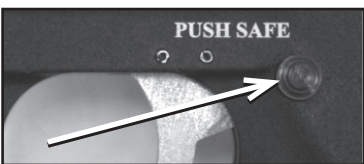

Figure 1: Trigger Safety Location
- **TO TURN ON THE TRIGGER SAFETY (SAFE MODE): PUSH THE SAFETY IN AS SHOWN IN FIGURE 1.**